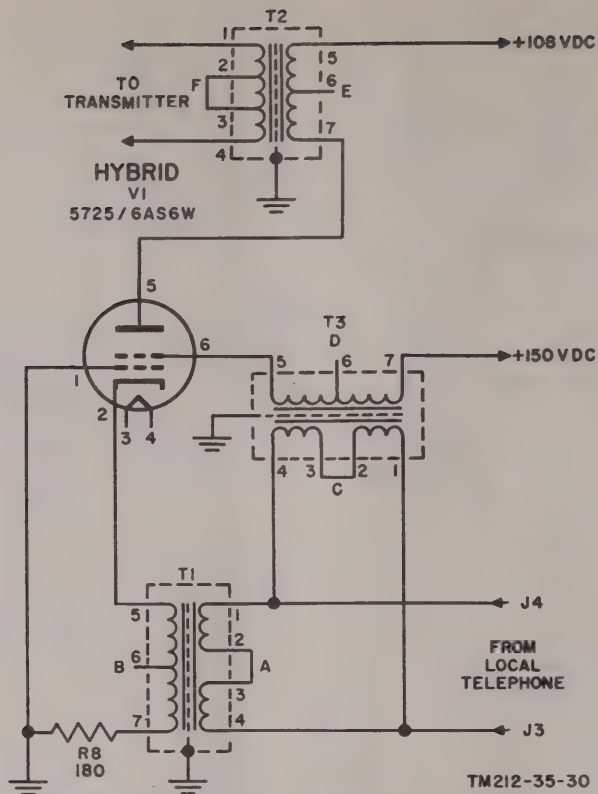

Figure 30. Simplified hybrid circuit transmitting signal.
e. *Voice Frequencies From Local Telephone.* The local telephone may be connected directly to J3 and J4 or through a switchboard and telephone line. The audio signal from the local telephone appears across winding A of transformer T1. During this phase of hybrid operation, there is no signal across R4, R5, and R6. The circuit operates as a grounded grid amplifier and may be redrawn (fig. 30). The audio signal from the local telephone, which appears across winding A of transformer T1, will induce a voltage (the audio signal) across winding B of transformer T1. Winding B of transformer T1 is in series with the cathode of hybrid V1. The audio voltage appearing across winding B will modulate the dc tube current of hybrid V1. The modulated current flows through winding E of transformer T2, which is in the plate circuit of hybrid V1. The modulated current induces an ac voltage (the audio signal) across winding F of transformer T2. Radio Transmitter T-593(\*)/TRC-47, connected across winding F, will be modulated by the audio voltage. Figure 30 reveals that winding A of transformer T1 and winding C of transformer T3 are common. Therefore, the voice signal from the local telephone which appears across winding A of transformer T1 also appears across winding C of transformer T3. Transformer T1 is connected so that the voltage across winding B is in phase with the voltage across winding A. Transformer T3 is connected so that the